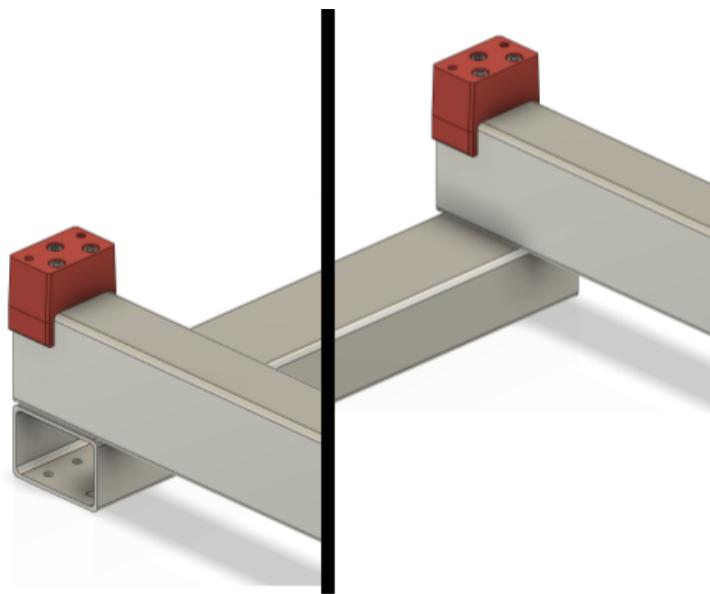

Figure 4.3
- Both BF12 Mounts are oriented correctly as shown in Figure 4.3 (bolts make a triangle pattern pointing towards the back of the machine)